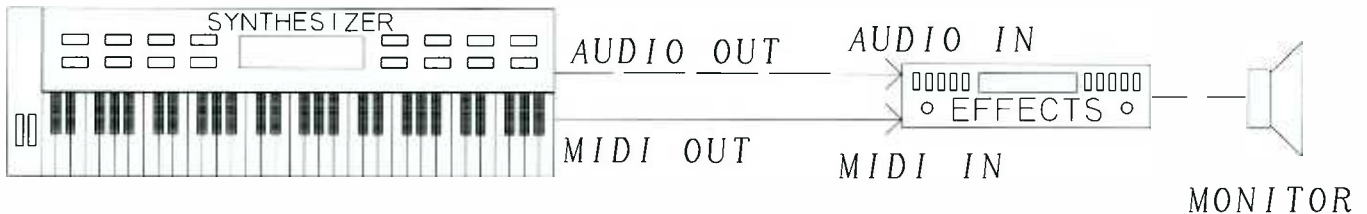

Figure 1-8. An effects unit.
- **Effects** (Figure 1-8): signal processors that modify sounds sent through them to add sonic interest or spaciousness. Some examples of effects are reverberation, echo, chorus, and compression. MIDI effects units can be controlled via MIDI commands (described later). Some recent effects units are the Alesis Microverb III and Yamaha FX1000.